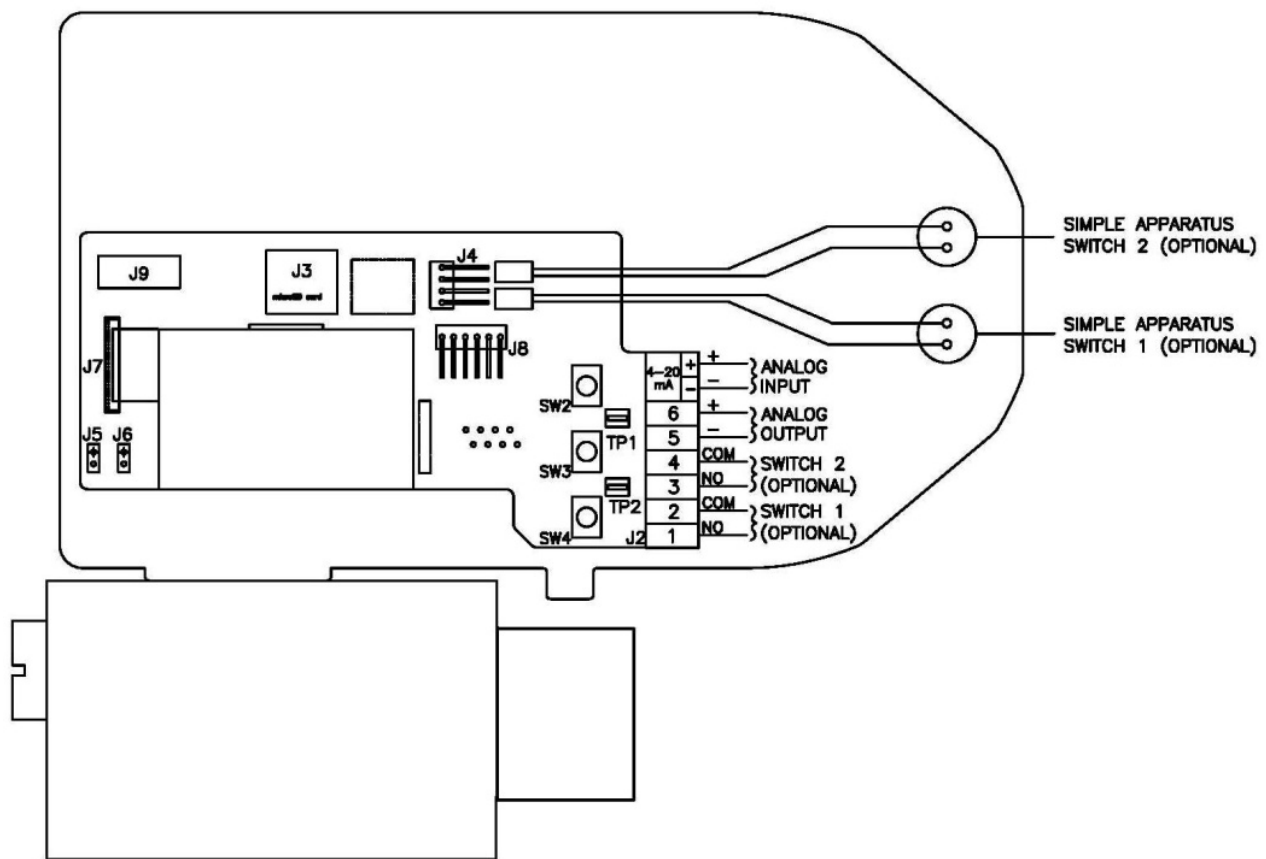

Figure3-12
3. Connect the 4 to 20 mA loop signal to terminal points marked (+) and (-). See figure 3-12 for a wiring schematic.
4. If the positioner was ordered with an analog output, connect output wiring to terminal points 5 & 6, (polarities shown on figure 3-12). The 4-20mA analog output is of the current sink type therefore it requires a suitable external DC power supply (24VDC nominal).
5. If the positioner was ordered with switches, connect to the switches at terminal points 1 thru 4, as shown in Figure 3-12.